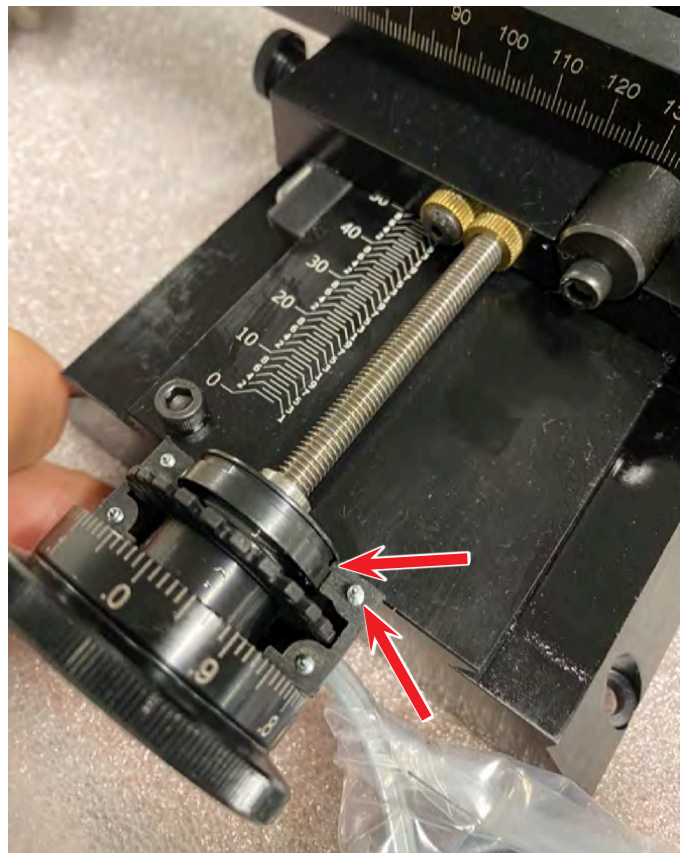

FIGURE 25
B. Take the bottom half and assemble it onto the bottom of the thrust collar with the step in the thrust collar groove. Make sure that the mounting screws are in the bottom half (see Figure 25).